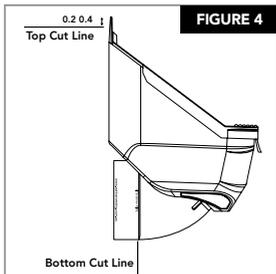

FIGURE 4
STEP 3 Position the Leaf Eater Advanced™ next to existing pipework, mark and cut top and bottom cut lines as per FIGURE 4. Ensure the cut edge is clean and smooth.